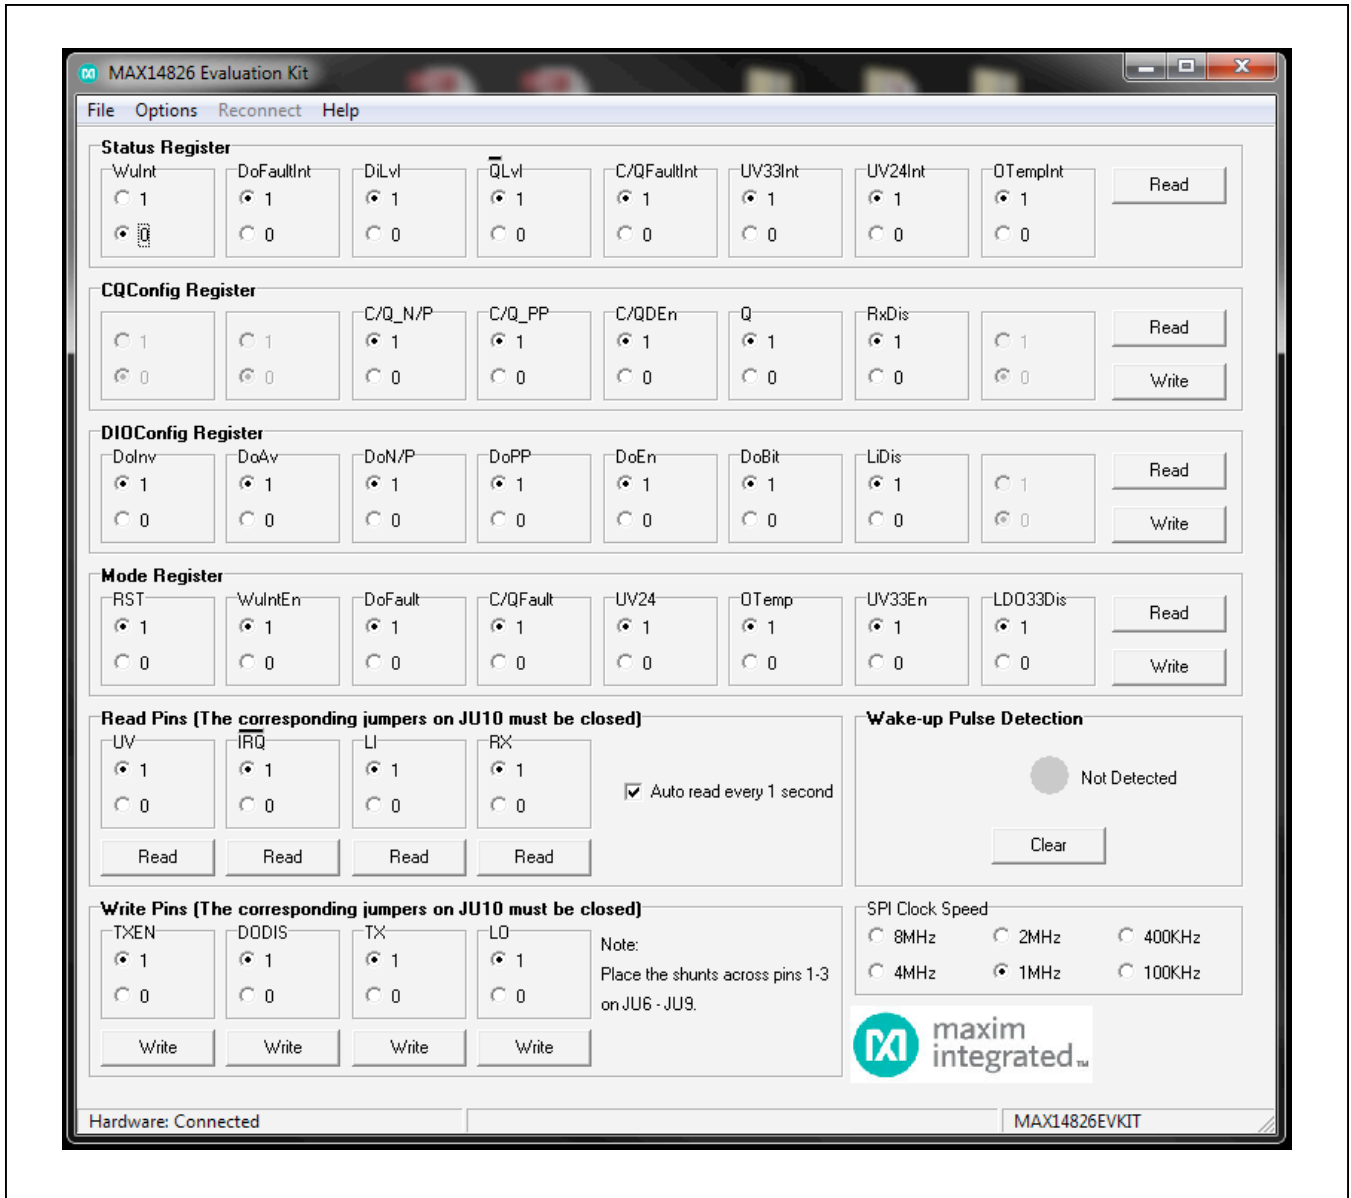
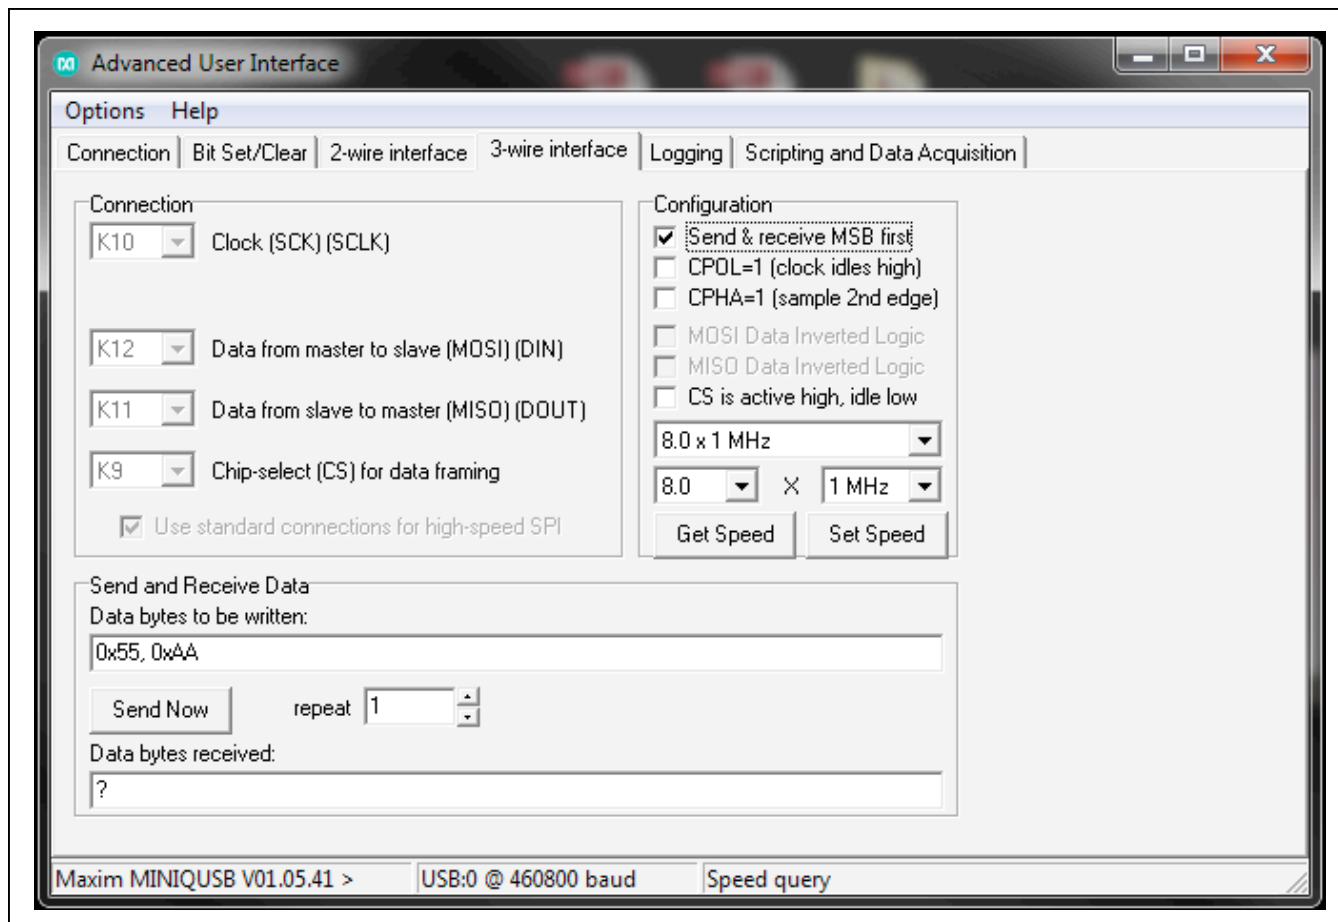

Figure 1. MAX14826 EV Kit Software Main Window
Figure 2. MAX14826 EV Kit Software Advanced User Interface Window
- 6) Start the EV kit software by opening its icon in the Windows **Start | Programs** menu. The EV kit software main window appears, as shown in Figure 1.
The main window of the evaluation software (Figure 1) displays the SPI registers and the device pins that are connected to the on-board MAXQ2000 microcontroller. The user can send read or write SPI commands to the device, configure the logic levels of the device input pins, and read back the logic levels of the device output pins.
There are two methods for communicating with the device. The first is through the window shown in Figure 1. The second is through the **Advanced User Interface** window shown in Figure 2. The **Advanced User Interface** window becomes available by selecting the **Options | Interface (Advanced User)** menu item and allows execution of serial commands manually.